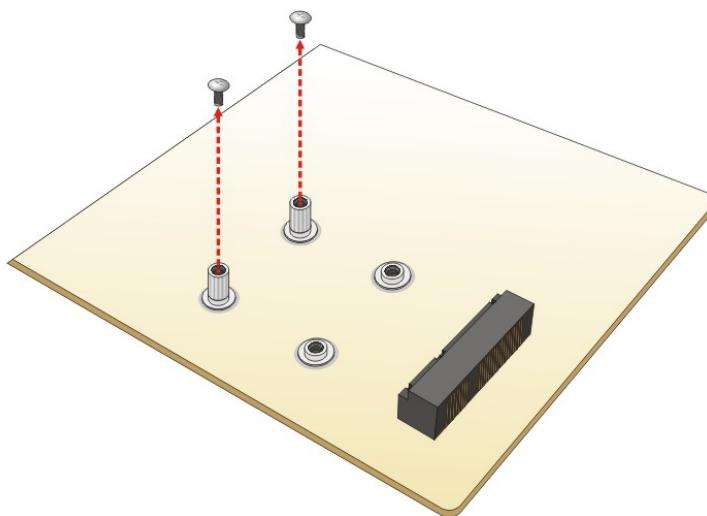

Figure 3-9: Removing the Retention Screws
Step 3: Remove the retention screws. Remove the two retention screws as shown in **Figure 3-9**.